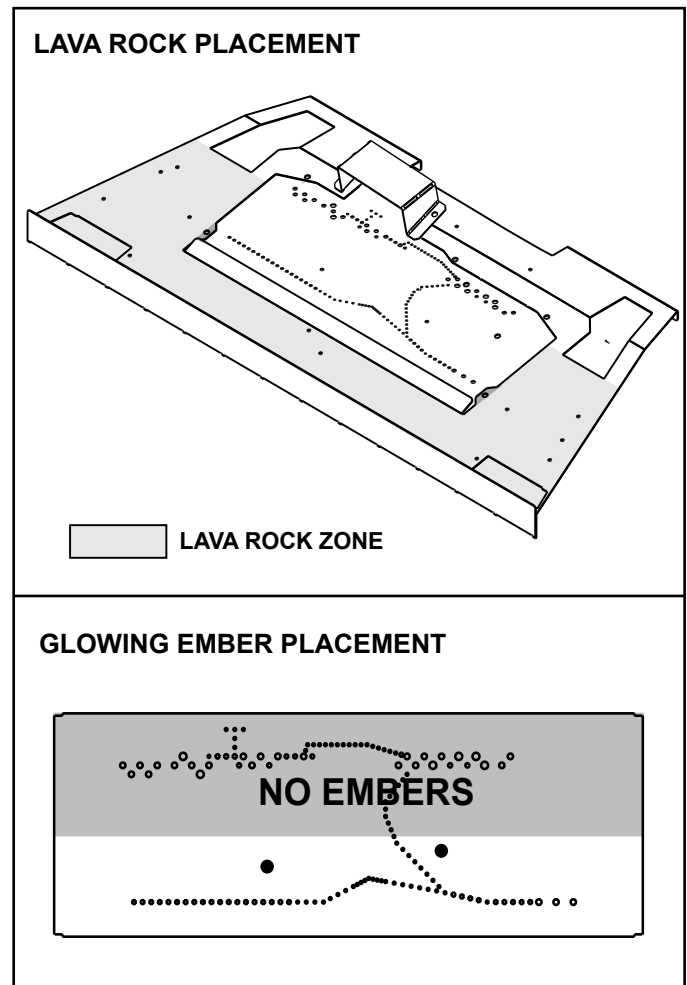

Figure 9.3 Placement of Lava Rock and Embers
- Place lava rock in front of and to the sides of the burner. See Figure 9.3.
- Embers CANNOT be placed in the shaded area as shown in Figure 9.3.